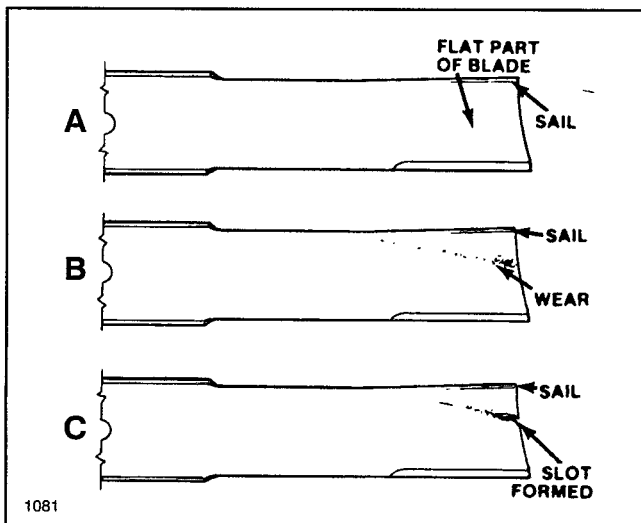

Figure 16
1. Examine cutting ends of the blade carefully, especially where the flat and curved parts of the blade meet (Fig. 16-A). Sand and abrasive material can wear away the metal that connects the flat and curved parts of the blade. Check the blade(s) before using the mower. If wear is noticed (Fig. 16-B), replace the blade(s).